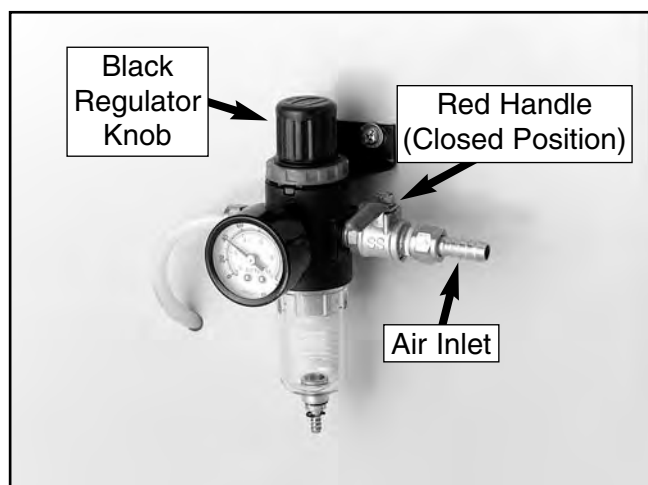

Figure 7. Air inlet located on regulator.
1. Connect the hose from your air compressor to the air inlet (**Figure 7**) on the regulator.
3. Lift the black regulator knob (**Figure 7**) and adjust it until the air pressure gauge reads 75 PSI. Note—*Turn the dial clockwise to increase the air pressure and counterclockwise to lower the air pressure.*